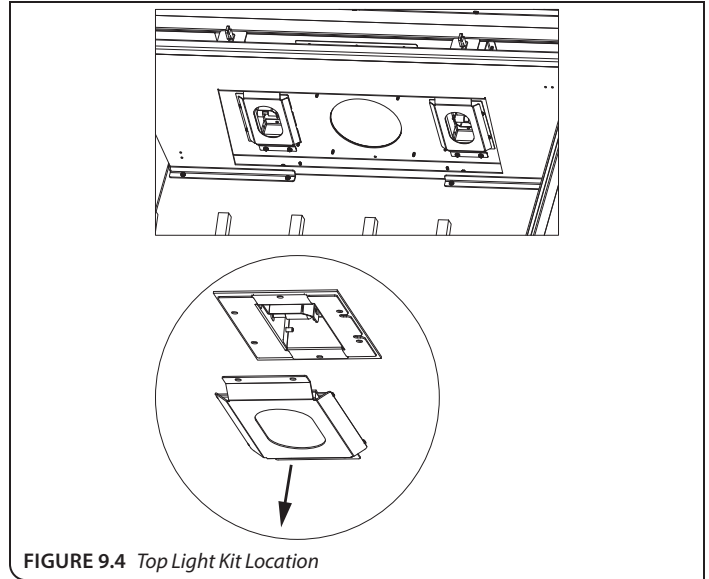

FIGURE 9.4 Top Light Kit Location
2. Remove the top light kit cover assembly, (8) screws total (FIGURE 9.4). Save screws.
3. Install or replace (2) halogen bulbs (included with this kit) into lamp bases.
4. Reinstall top light kit cover assembly with (8) screws previously removed.